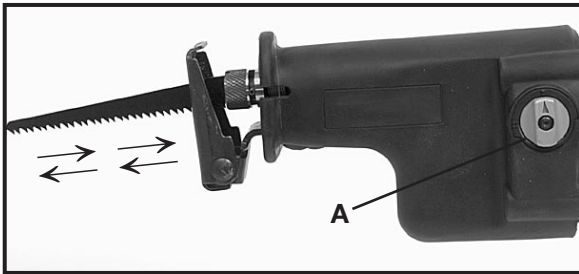
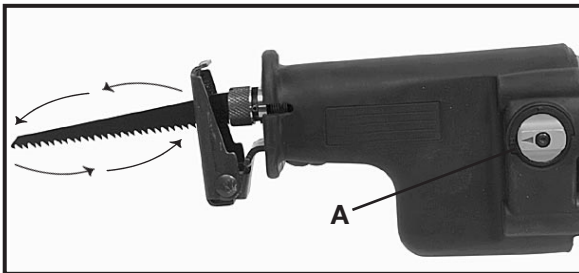

Fig. 10
Fig. 11
Model 737 has dual blade motion: you have a choice of straight reciprocating motion, as shown in Fig. 10, or orbital motion as shown in Fig. 11. Straight reciprocating motion should be used for all metal cutting operations, and for wood cutting applications where finish is more important than speed. Orbital motion is used for fast cutting of wood.
To set saw for straight reciprocating motion: rotate knob (A) Fig. 10, clockwise so that the bar is vertical (arrow pointing to I), as shown in Fig. 10.
To set saw for orbital motion: rotate knob (A) Fig. 11, counterclockwise so that the bar is horizontal (arrow pointing to II), as shown in Fig. 11.